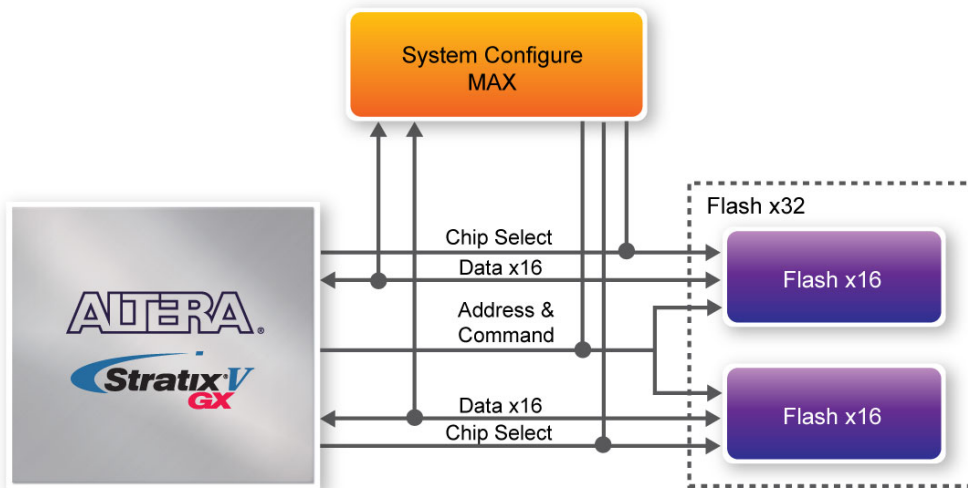

Figure 2-12 Connection between the Flash, Max and Stratix V GX FPGA
Each interface has a 16-bit data bus and the two devices combined allow for FPP x32 configuration. This device is part of the shared flash and MAX (FM) bus, which connects to the flash memory and MAX II CPLD (EPM2210) System Controller. **Figure 2-12** shows the connections between the Flash, MAX and Stratix V GX FPGA.